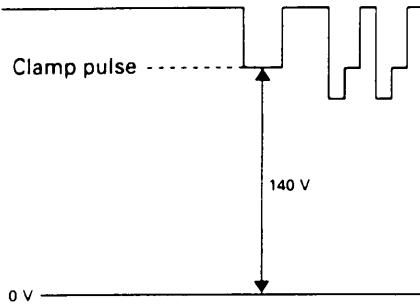

Fig 2.
- 3: Adjust the voltage of the clamp pulse to +140V with Ug2 (see fig 2).